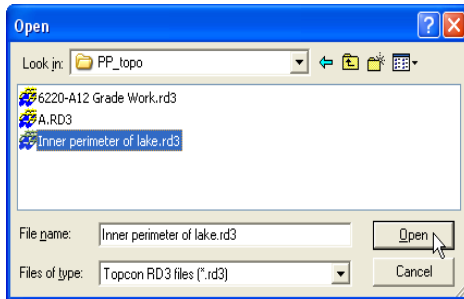

Figure 6-1. Import 3D Alignment File
2. On the *Open* dialog box, navigate to the location of the desired file, select it, and click **Open** (Figure 6-1). The alignment from the selected file is added to the 3D Project file.